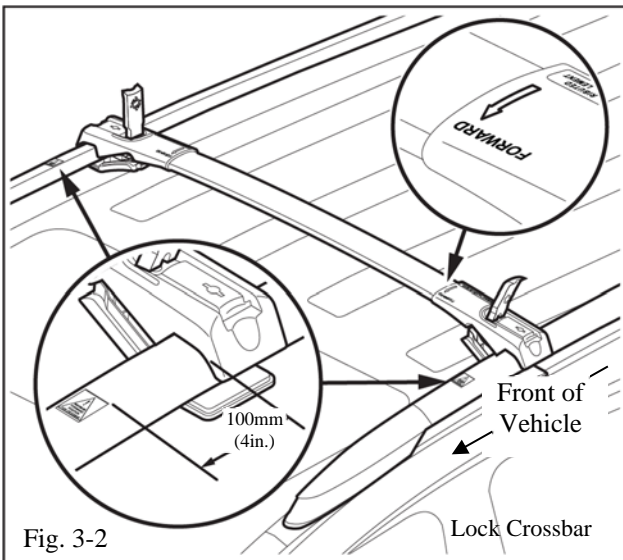

Fig. 3-2
- (c) Straighten the crossbar so that the front of the support is 100mm (4 in.) rearward of the “forward limit” warning label (2 places) (Fig. 3-2).
- (d) Make sure the FORWARD arrows on the crossbar supports are pointing toward the front of the vehicle (Fig. 3-2).